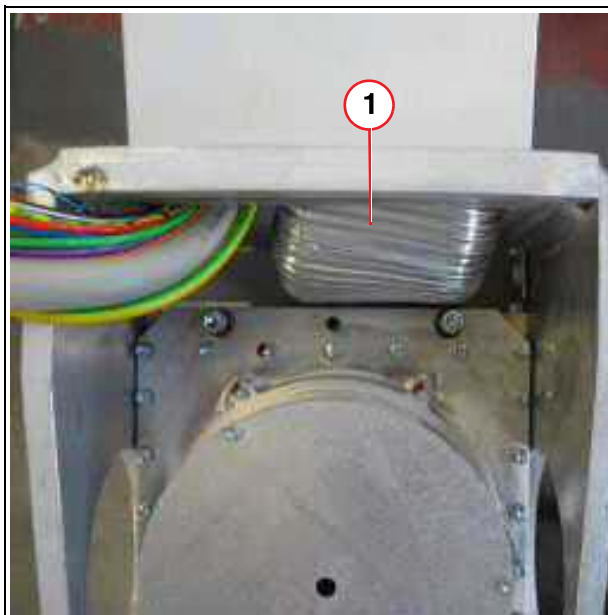

Fig. 18: fan
5. Remove the flexible tube (1/Fig. 18 / p. 37) from the bracket of the fan.